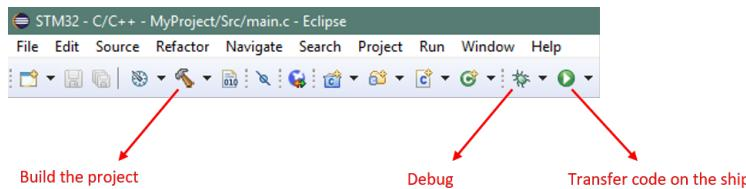

Figure 3.11: Commands of the *AC6* [4].
- Finally, press *Generate code* to open the desired compiler, in this case *AC6*. Once the creation of the project is done, the pop-up window shown on the fig. 3.11, appears, then click on *Open Project*.
Once your code has been set you can, helping you with the fig. 3.11 :